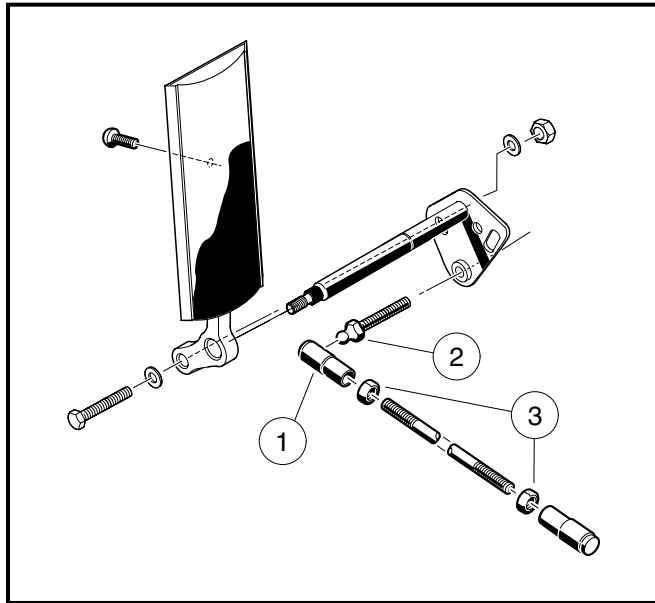
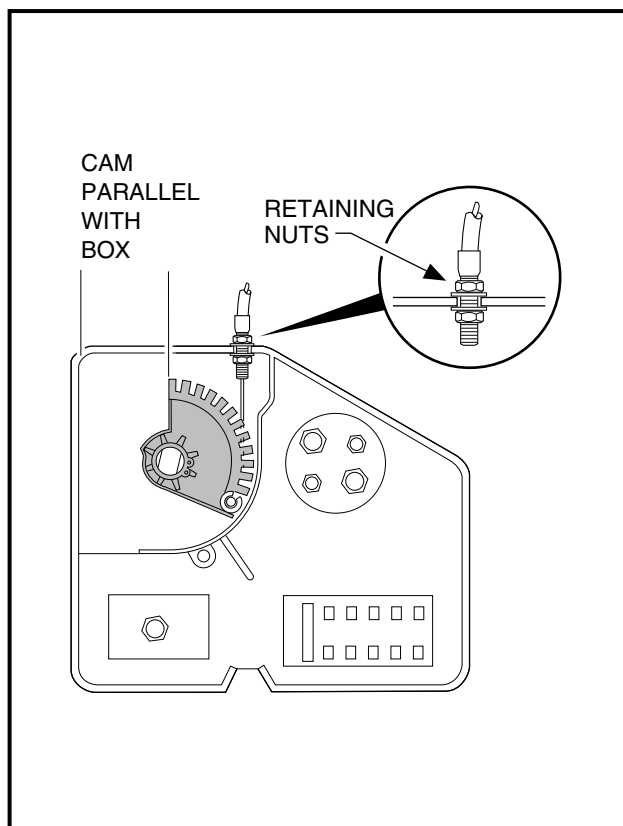
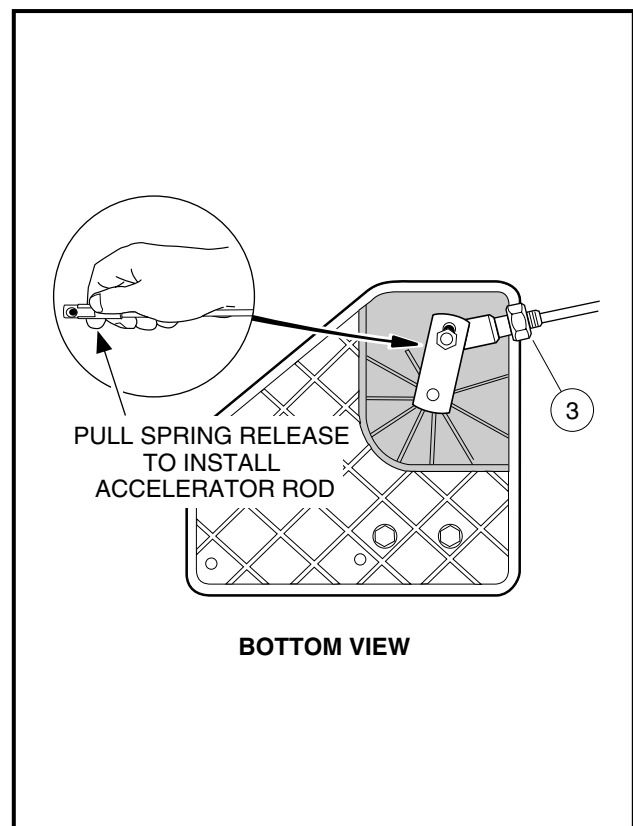
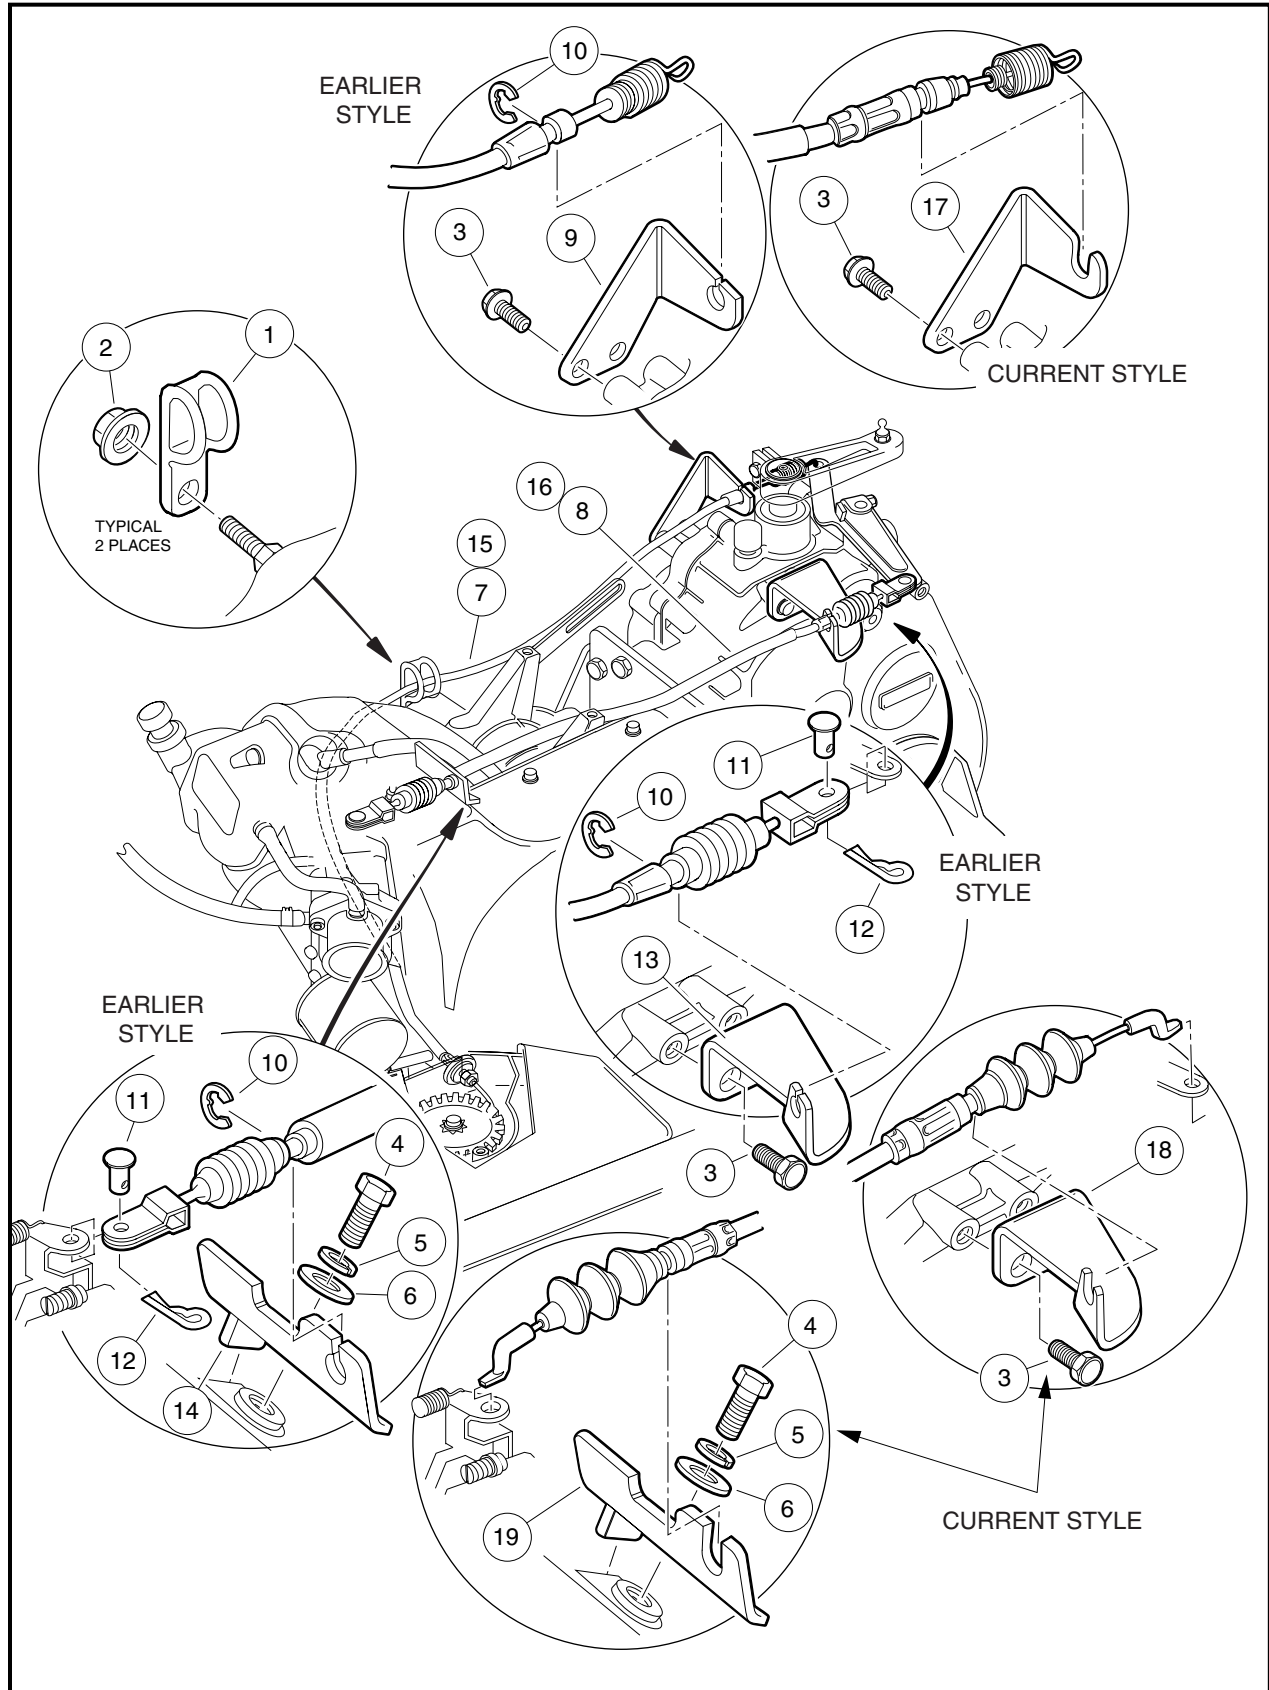

Figure 14-4 Accelerator Rod
Figure 14-5 Cam Position
Figure 14-6 Accelerator Rod
Figure 14-8 Governor and Accelerator Cables
2. Disconnect the ball joint (1) from the ball stud (2) on the accelerator pedal (**Figure 14-4, Page 14-7**) and from the bell crank at the electrical box (**Figure 14-6, Page 14-9**).
3. Install the ball joint on the ball stud at the accelerator pedal (**Figure 14-4, Page 14-7**).
6. With the ball joint jam nuts (3) loose (**Figure 14-4, Page 14-7**), adjust the length of the accelerator rod so the indicated cam edge is parallel with the edge of the electrical component box (**Figure 14-5, Page 14-9**). **See following CAUTION.**
7. Install the accelerator rod on the bell crank ball joint on the electrical component box (**Figure 14-6, Page 14-9**). **See following CAUTION and NOTE.**
- 2.1. Remove the hitch pin (12) and clevis pin (11) at the carburetor throttle bracket (**Figure 14-8, Page 14-12**).
- 3.1. Remove the cable from the engine bracket (19) and lift the 'Z' shaped cable end from the carburetor throttle bracket (**Figure 14-8, Page 14-12**).
- 4.1. Install the cable onto the governor cable support bracket (13) and the engine bracket (14) and attach an E-ring (10) at each end (**Figure 14-8, Page 14-12**).
- 5.1. Install the 'Z' shaped end into the governor bracket (18) and push cable down into bracket slot to secure. Be sure the bellows dust shield is attached (**Figure 14-8, Page 14-12**).
4. Remove the electrical component box cover and loosen the cable housing retaining nuts (**Figure 14-5, Page 14-9**).
5. Disconnect cable (1) from cam (17) (**Figure 14-8, Page 14-12**) in the electrical component box (**Figure 14-5, Page 14-9**).
6. Remove the E-ring (7) on the spring end of the cable at the accelerator cable bracket (5) (**Figure 14-8, Page 14-12**). Pull the cable housing out of the bracket.
7. Disconnect the spring (16) from the engine governor arm by rotating the arm counterclockwise one-half turn. Remove the cable assembly from the vehicle.
1. Connect the cable to the cam (17) in the electrical box (**Figure 14-8, Page 14-12**).
2. Insert the cable housing into the mounting slot in the wall of the electrical box, with approximately the same number of threads visible between the jam nuts as are visible from the nut inside the box to the end of the cable housing (**Figure 14-5, Page 14-9**). Tighten the nuts finger-tight.
3. Connect the spring (16) to the engine governor arm (**Figure 14-8, Page 14-12**).
4. To reduce RPM, loosen the accelerator cable retaining nut on the outside of the electrical box wall and tighten the retaining nut on the inside of the wall until the specified RPM is reached (**Figure 14-5, Page 14-9**). To increase RPM, loosen the cable retaining nut inside the electrical box and tighten the nut outside the box until the desired RPM is reached.